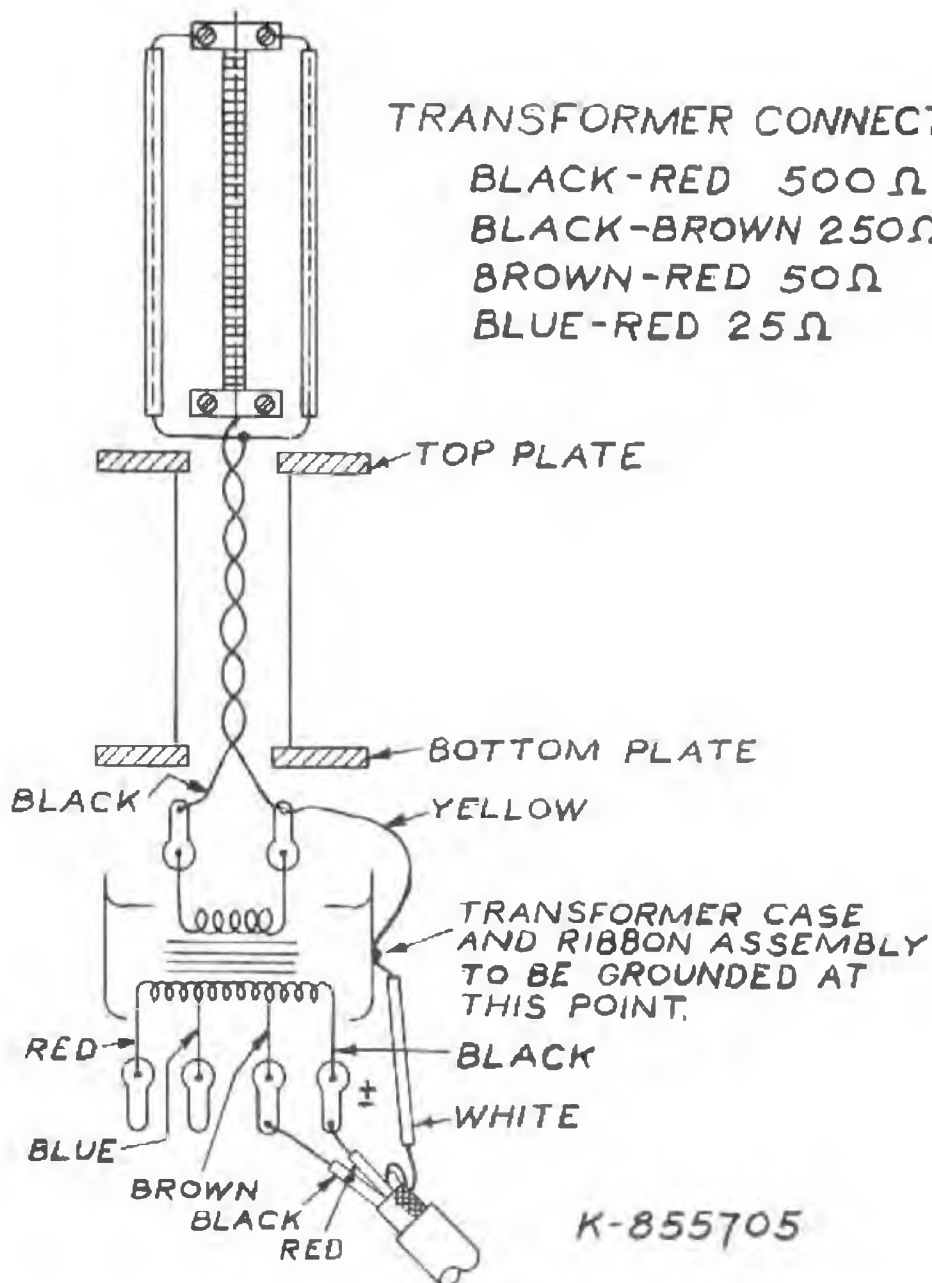

FIGURE 3 - MICROPHONE CIRCUIT
**CABLE CONNECTIONS** - The microphone is shipped connected for 250 ohms output. Transformer connections for 500 and 50 ohm outputs are shown in Figure 3. The terminal board is made accessible by removing the hemispherical bottom shell.